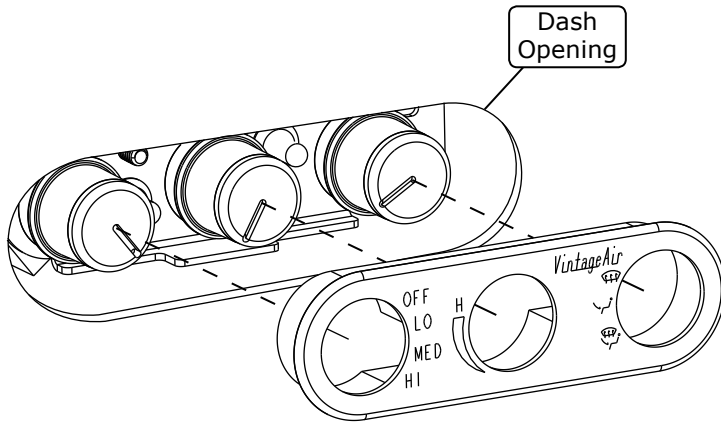

Figure 2
6. Install the control panel face into the dash, and reassemble the control panel (See Figures 2 & 2a, Page 5).
7. Locate the (2) sets of blue light-bulb wires on the back of the control panel. Connect the ring terminal to a suitable chassis ground. Connect the insulated female terminal to the instrument panel illumination harness on the vehicle (0-12 volt).